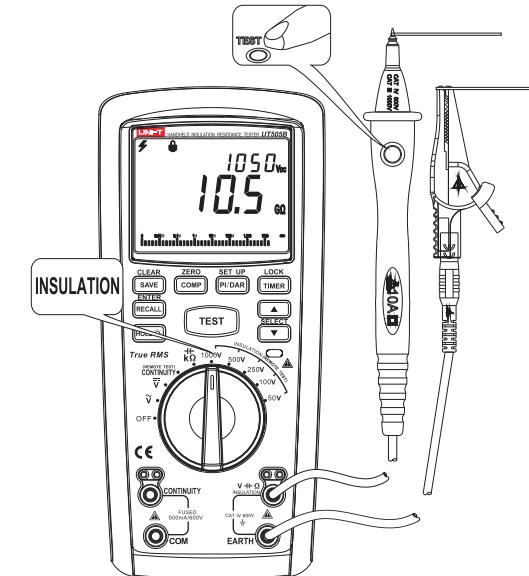

Figure 9
5. Measuring of Insulation Resistance (See Figure 9)
- ① Insert the red probe into "V" jack (red jack), and black one into "EARTH" jack (black jack).
- ② Rotate dial switch to INSULATION (area of insulation resistance) and select the tested voltage required. Connect the probe to the tested circuit in parallel.
- ③ Press "TEST" on instrument or "TEST" on remote-control probe and read current resistance on main display area on display. In auxiliary display area, tested voltage or current (press "▼" to select) can be seen, while display will flicker and show the warning symbol of high voltage "⚡".
- ④ Press the key of "TEST" and LCD will flicker and show the warning symbol of high voltage "⚡" in case of high-voltage output. In addition, red warning indicator beside warning symbol of shell will be on.
- ⑤ In measuring, if intending to save measuring value, press the key of "SAVE" for saving.
6. Polarization Index or Insulation Absorption Ratio (See Figure 9)